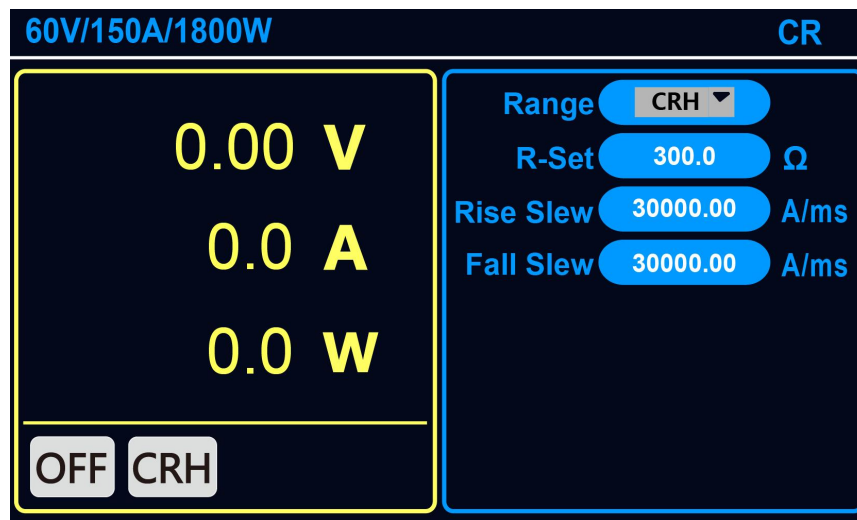

Figure 22 CR mode
6. Press the "On/Off" key to turn on, and the display state is "ON", as shown in Figure 22.